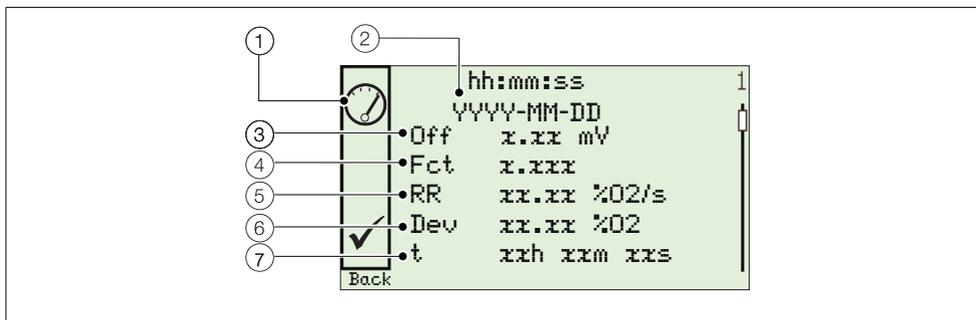

Fig. 8.2 Typical Performance Log and Performance Code Structure
When the *Performance Log* is selected, an icon (1) in Fig. 8.2) at the left side of the display indicates a successful or failed calibration or accuracy check; or if a new probe / cell has been fitted. Icon types are shown in Table 8.6 below: